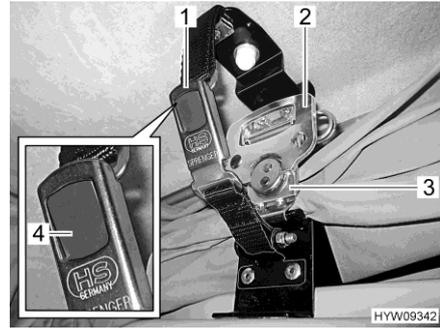

Fig. 34 Locking
- On both sides, pull down the quick-action turnbuckle (Fig. 34,3) and hang it into the holding plate.
- On each side, fold out the handle (Fig. 34,2) of the quick-action turnbuckle and turn half a turn in a clockwise direction.
- Plug both parts of the snap lock (Fig. 34,1) together, respectively. The grey push button (Fig. 34,4) engages.